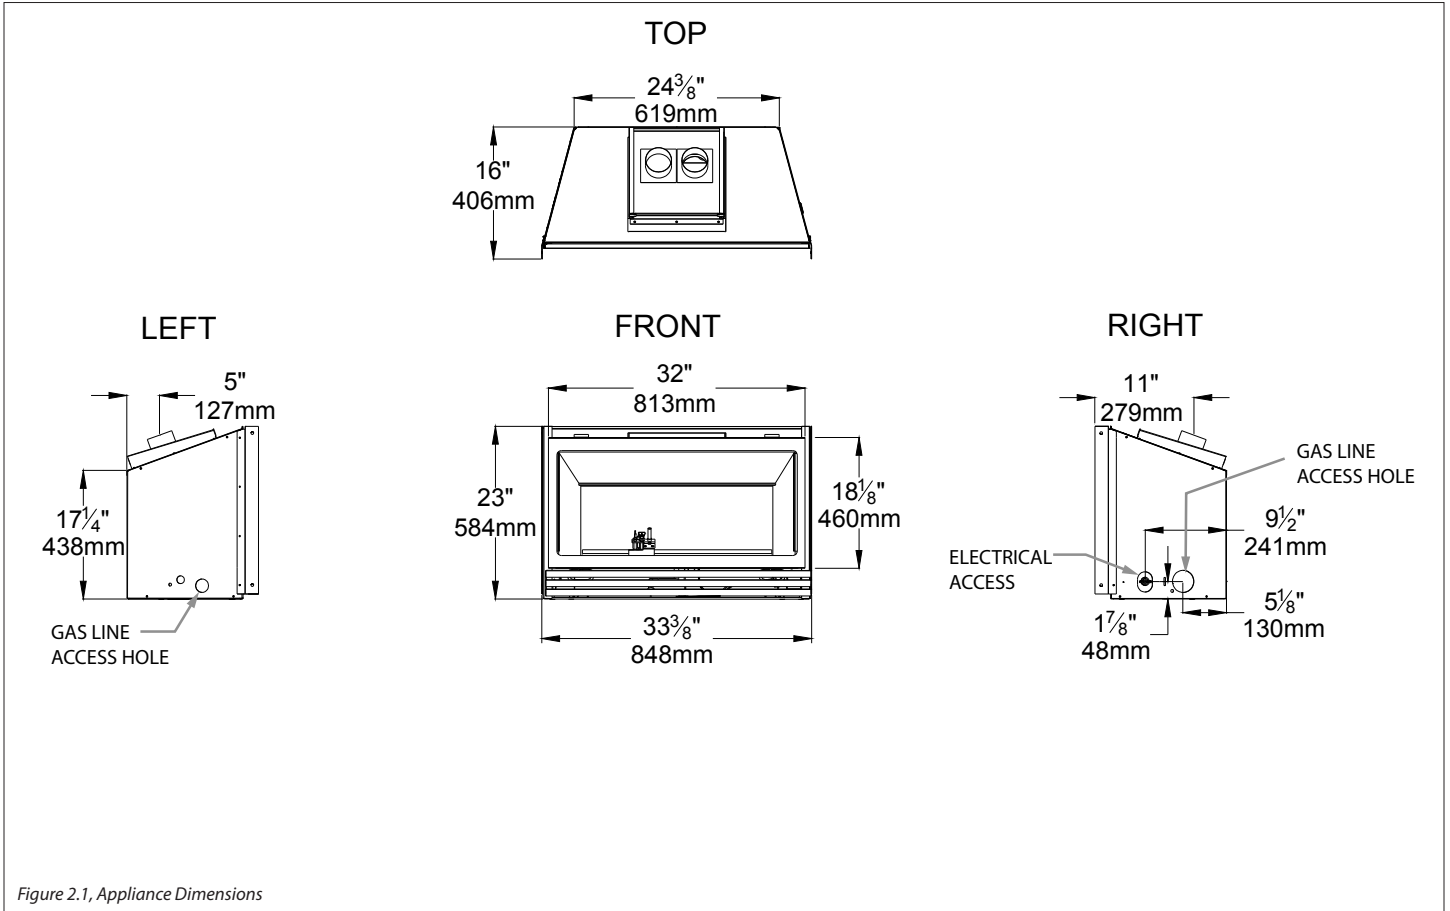

Figure 2.1, Appliance Dimensions
- A gas line must be able to be installed to the fireplace insert. Please refer to Figure 2.1 on page 9. There are gas line access holes on both the right and left side of insert.